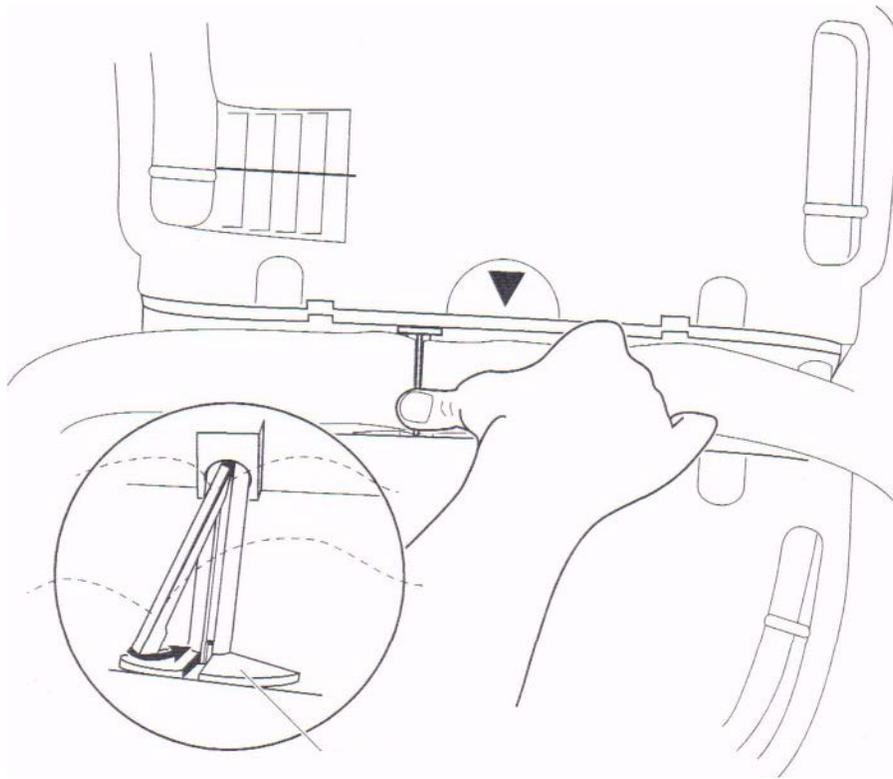

Figure 2-2 Seating the LifeBand® Band Clip Properly into the Drive Shaft Slot
4. Make sure that the band clip is seated properly and fully into the slot on the drive shaft (see Figure 2-2).